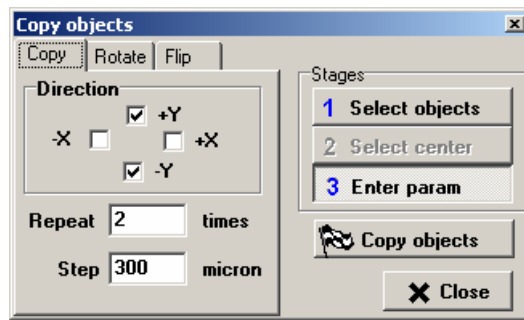

Fig. 41
- **Copy.** This operation represents translation of the selected objects in a vertical or horizontal direction. Simultaneous copying in several directions is available. The **Copy** tab includes the following elements (see Fig.41):